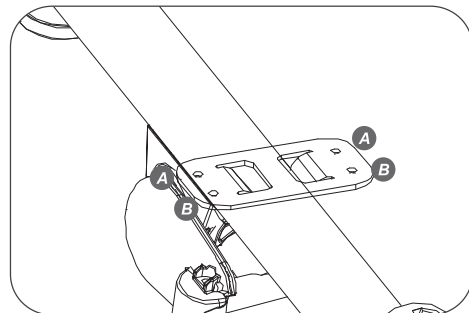
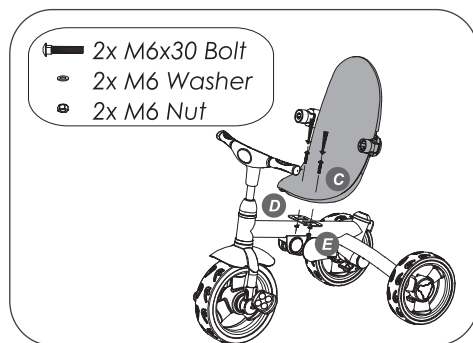

Fig. 4
Fig. 5
5. The Frame has 2 forward facing positions. Select the front **A** or back position **B** that best allows the child to reach the Anti Skid Pedals (See Fig. 4).
6. Insert one M6x30 Bolt down through one Plastic Seat Base opening **C** into either the front or back Frame position **D** (See Fig. 4). Then place one M6 Washer on the end of the M6x30 Bolt, followed by one M6 Lock Nut **E** (See Fig. 5). Hand-tighten the M6 Lock Nut. Repeat process with second M6x30 Bolt inserting through the second Plastic Seat Base opening.